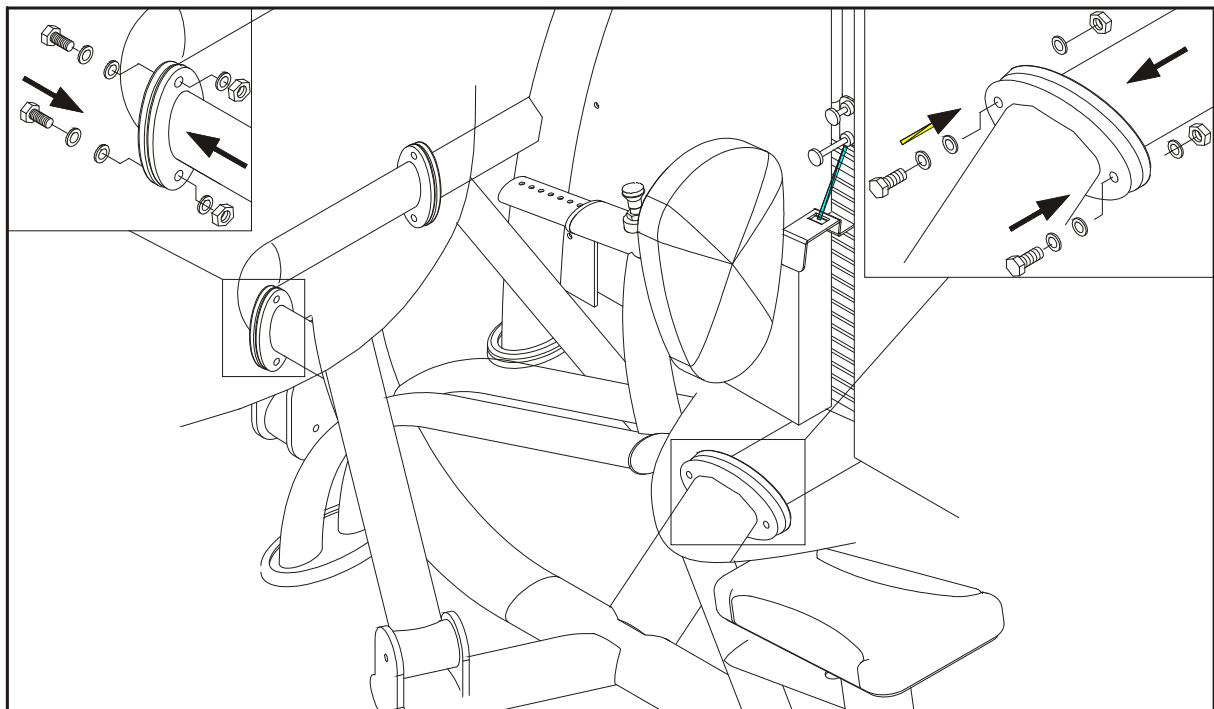

Fig.3
5. Hold the frame during assembly, then tighten the frame as shown in the diagram with the screws provided. (See Fig.3)